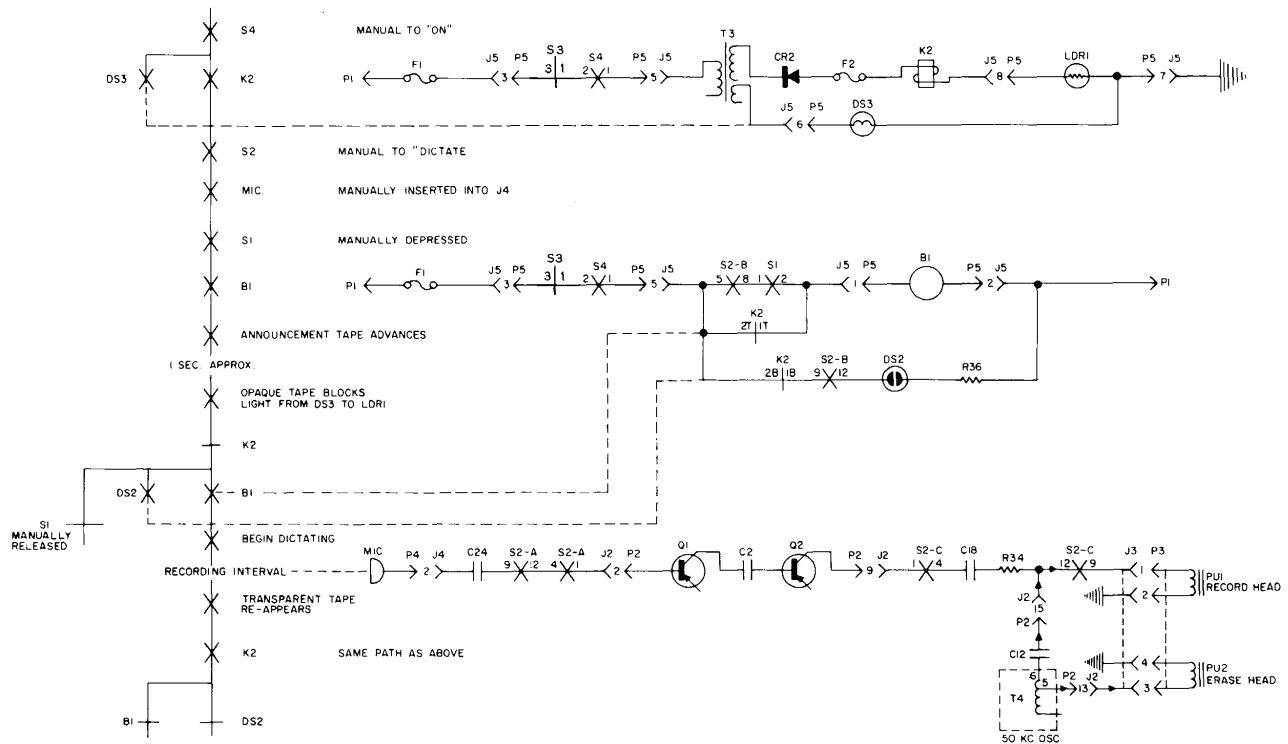

Figure 1. Dictate Announcement Sequence Chart.
2. DICTATE ANNOUNCEMENT (FIGURE 1)